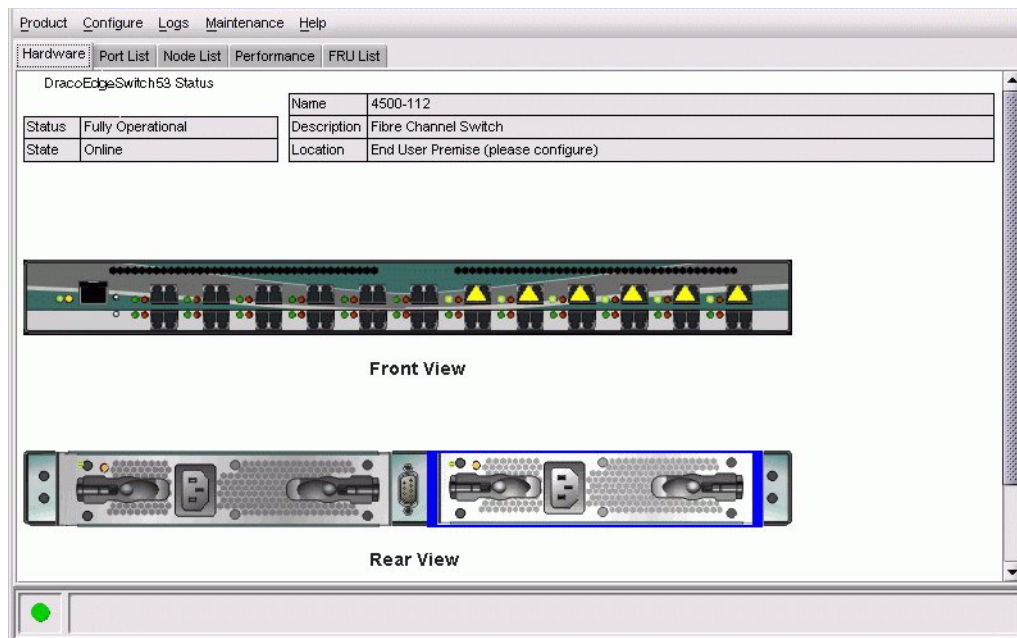

Figure 16: Switch Hardware View page
3. Select the **Element Manager** option from the pop-up menu. When the Element Manager application opens, the last view (tab) accessed by a user opens by default. The example in Figure 16 shows the **Hardware View**.